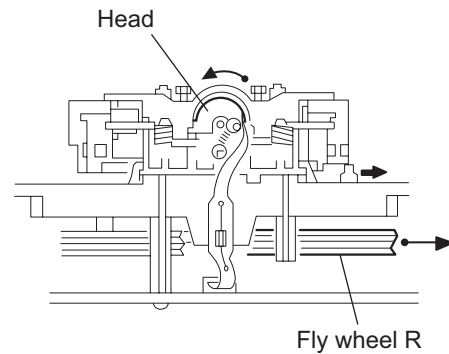

Fig.2
- (1) While moving the trigger arm on the right side of the head mount in the direction of the arrow, turn the flywheel **R** counterclockwise until the head mount comes ahead and clicks.
- (2) The head turns counterclockwise as you turn the flywheel **R** counterclockwise(See Fig.2 and 3).
- (3) Disconnect the flexible wire from connector CN31 on the head amplifier & mecha control board.
- (4) Remove the spring from the back of the head.
- (5) Loosen the azimuth screw for reversing attaching the head.
- (6) Remove the head on the front side of the head mount.